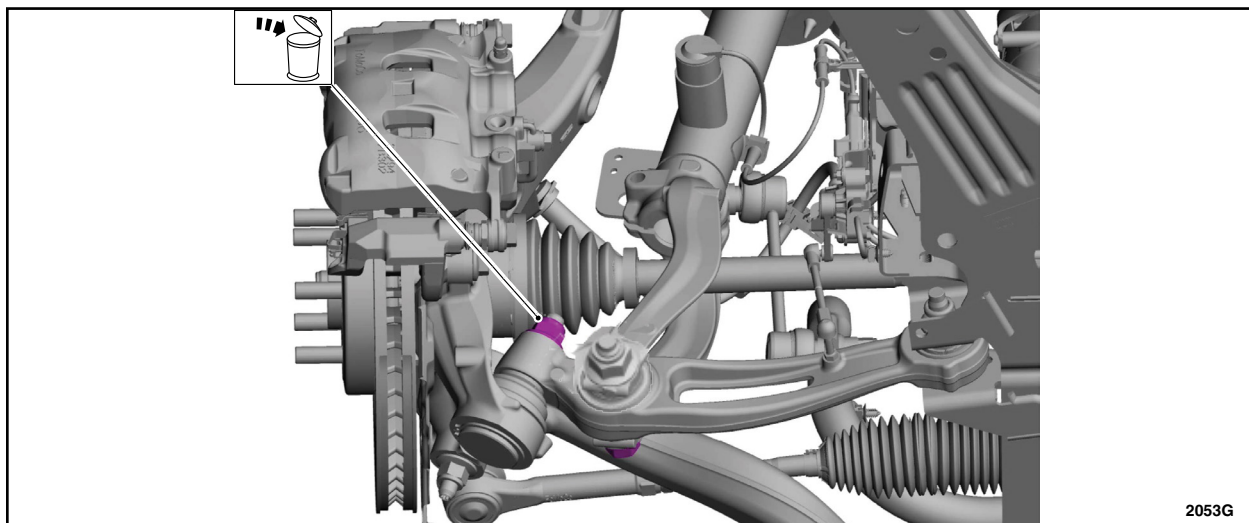

FIGURE 7
12. Remove and discard the rear lower arm outboard nut. See Figure 7.